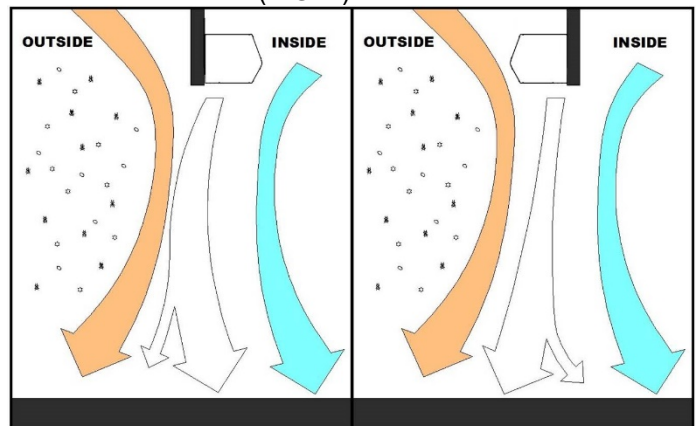

Fig. 4
- H. Regardless of whether the product is mounted on the inside or outside of the door opening, set the air directional vanes in the discharge nozzle slightly outward to approximately 10-15° towards the outside, or the wind load. (FIG. 4)